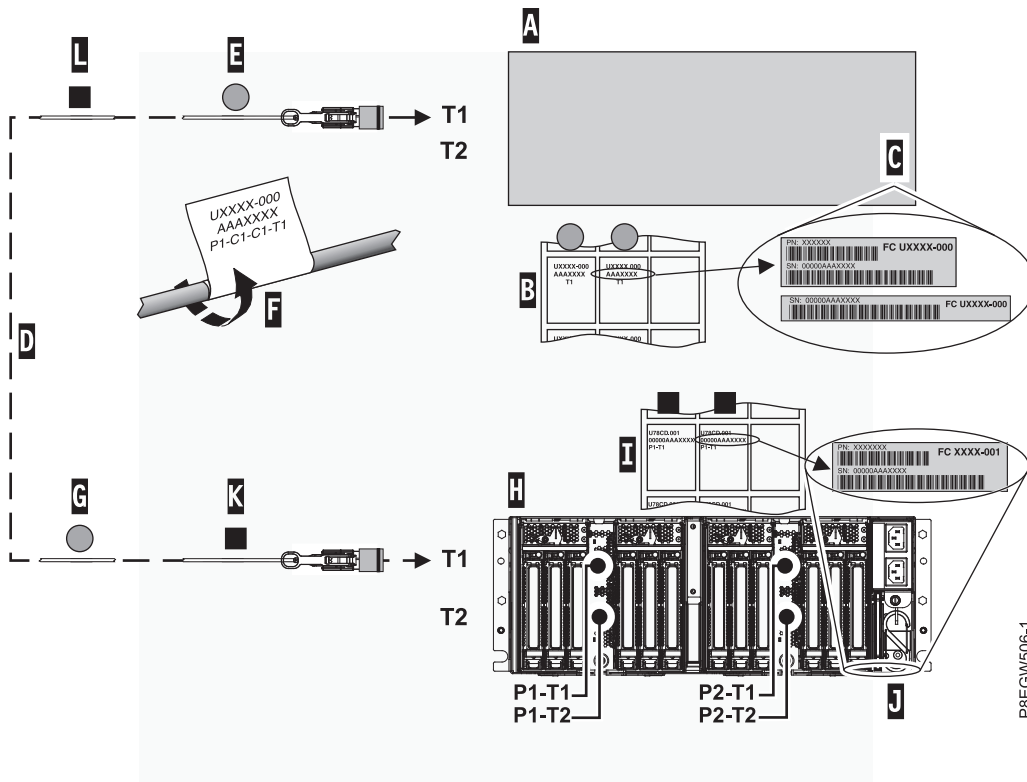

Figure 11. Labeling an expansion drawer cable
**Note:** While you are completing these steps, refer to Figure 11 on page 30 as a reference.
- g. Attach the leftmost Cx-T1 label to the connector end of the cable (**E**). See Figure 11 on page 30. Wrap the label with the blank end first so that the location information (**F**) is visible.
- h. Take the second label Cx-T1 from the host system label sheet (**B**) and place it on the opposite end of the cable that attaches to the EMX0 PCIe3 expansion drawer. Ensure that the label is placed more than 100 mm (4 in) from the end of the cable (**G**). See Figure 11 on page 30.
**Note:** While you are completing these steps, refer to Figure 11 as a reference.
- a. Locate the EMX0 PCIe3 expansion drawer (H) that you are connecting to the host system.
- b. Locate the EMX0 PCIe3 expansion drawer serial number label sheet (I).
- c. Match the EMX0 PCIe3 expansion drawer serial number (J) to the serial number shown on the EMX0 PCIe3 expansion drawer label sheet (I).
- f. Attach the leftmost Px-T1 label to the connector end of the cable (K). See Figure 11. Wrap the label with the blank end first so that the location information (F) is visible.
- g. Take the second Px-T1 label from the expansion drawer label sheet and place it on the opposite end of the cable greater than 100 mm (4 in) from the end of the cable (L). See Figure 11.